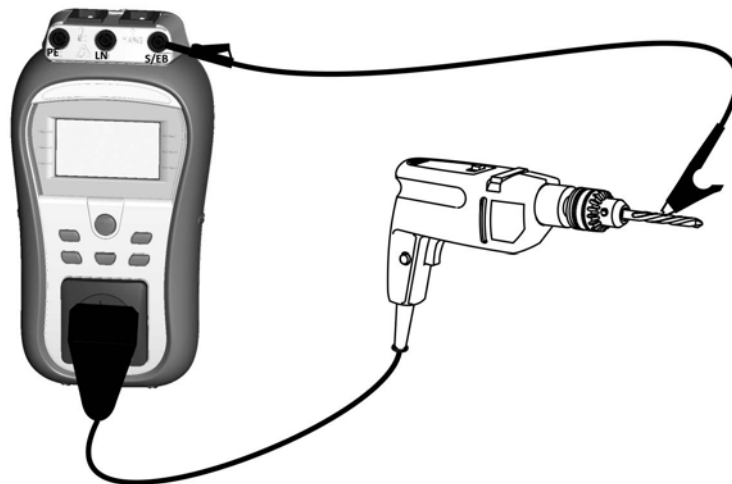
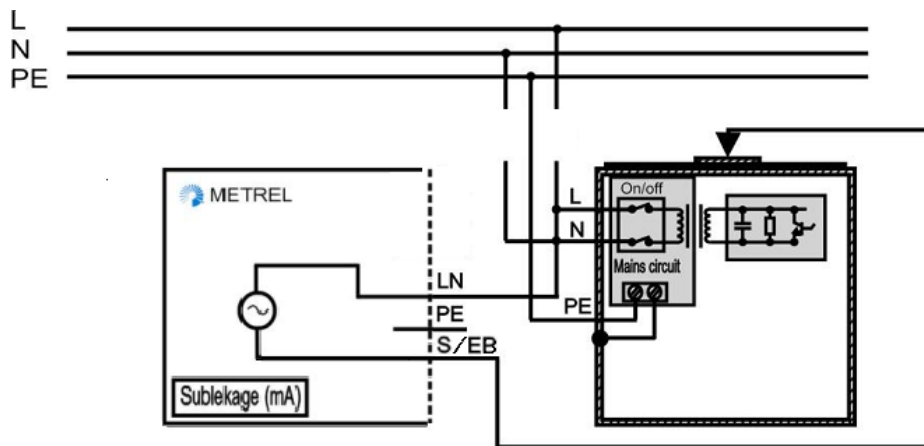

Figure 5.21: Measurement of Substitute leakage - P current
Figure 5.22: Measurement of substitute leakage of accessible isolated conductive parts of fixed installed DUTs
- ▶ Connect device under test to the instrument (see **Figure 5.21** and **Figure 5.22**).